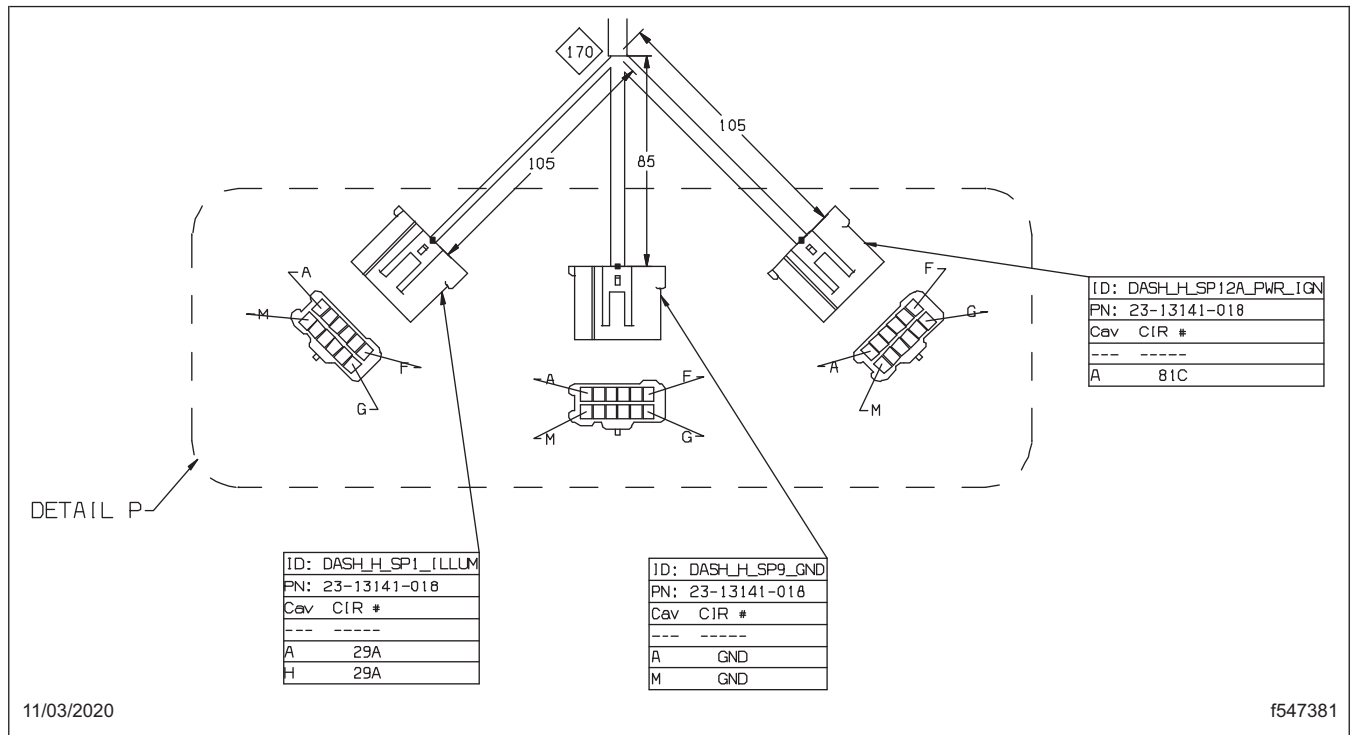

Fig. 4, Main Cab Dash Harness A06-71941-001, SP12A
- Note SP12A location. See Fig. 4 showing main cab dash harness A06-71941-001.